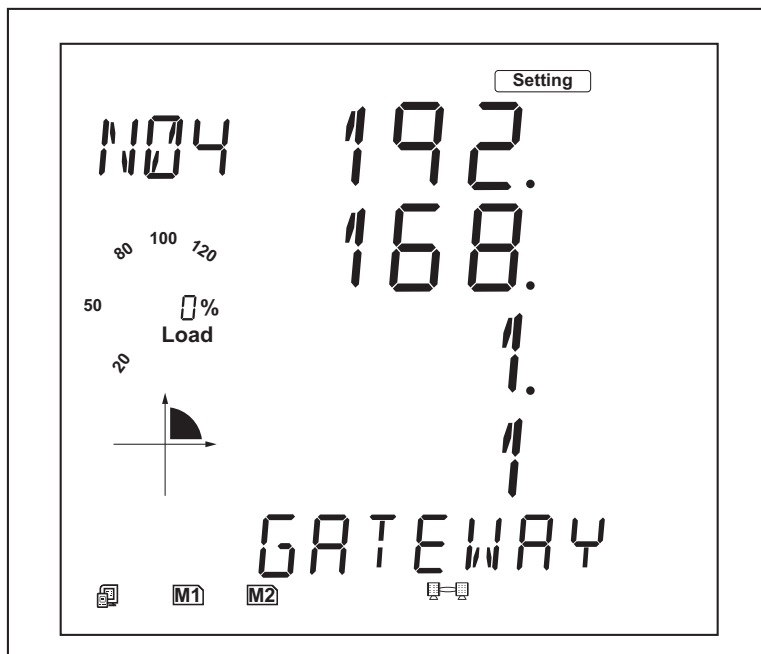

Figure 18: N04: Gateway
10. Press **P** to get to N04: Gateway for Ethernet port 1 (Figure 18 on page 18).